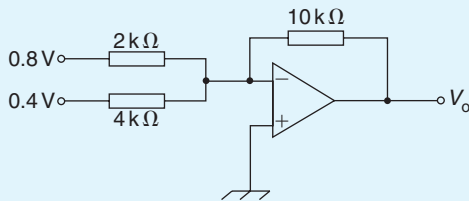

Figure 19.28
7. For the op amp shown in Fig. 19.28, the output voltage,  $V_o$ , is: